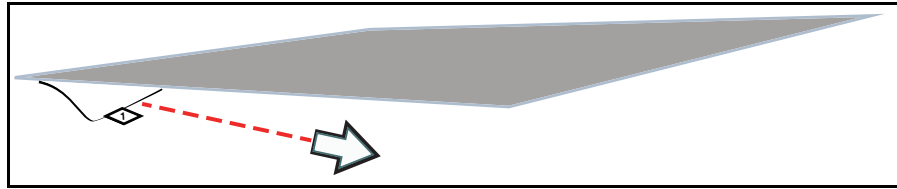

Figure 14-5 Removing rear mask
2. Remove the rear mask (Figure 14-5) from the screen protector.